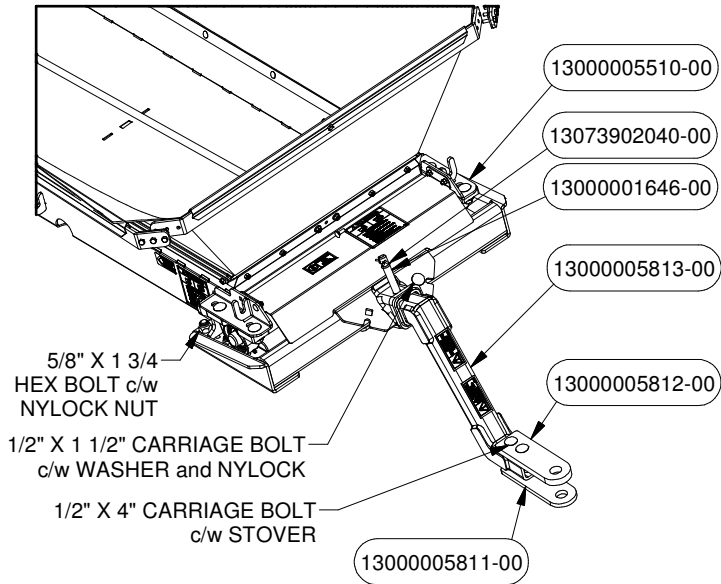

FIGURE 40
- Attach the Hitch PN# 5510 to the Intake using Hex Bolts c/w Nylock Nuts as shown in Figure 40.